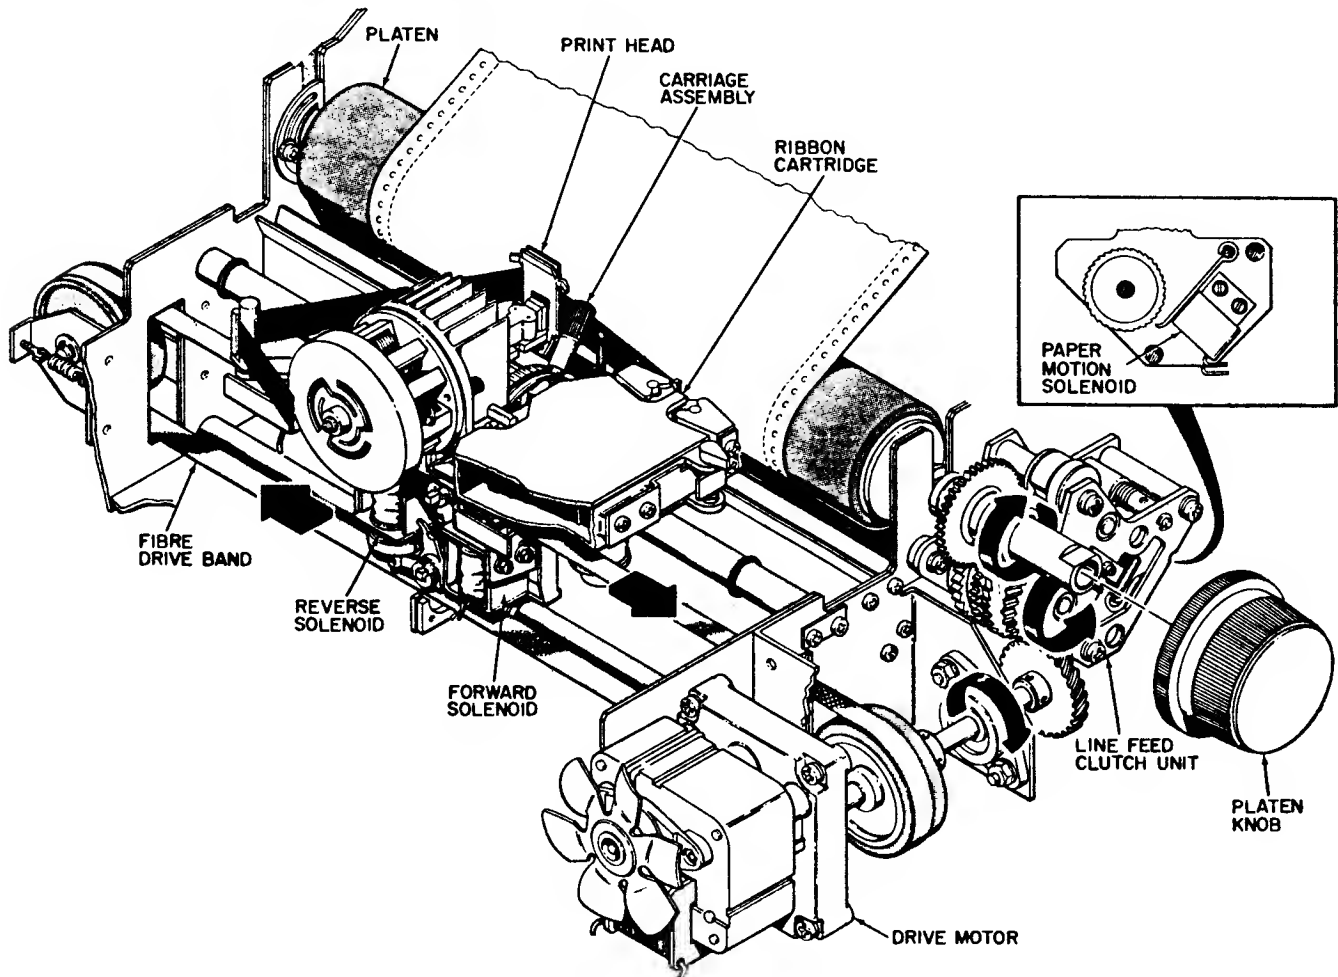

Figure 1-3. CHARACTER PRINTING/PAPER MOTION
1.2.1 CHARACTER PRINTING (Figure 1-3)
As shown in Figure 1-3, the print head and ribbon cartridge are attached to the carriage assembly. By activating either of the two carriage solenoids, the carriage attaches to a continuously rotating band. Activating the forward carriage solenoid attaches the carriage to the upper half of the band and moves the print head in the forward (left to right) direction. Activating the reverse carriage solenoid, attaches the carriage to the lower half of the band and moves the head in the reverse direction.
As shown in Figure 1-3, power from the drive motor is applied via a line feed clutch to the platen and forms handling mechanism (pinch roller or tractor) drive gears. Paper is advanced one line by momentarily activating the paper motion solenoid in the line feed clutch, allowing the drive gears to turn and advance the paper by one line.